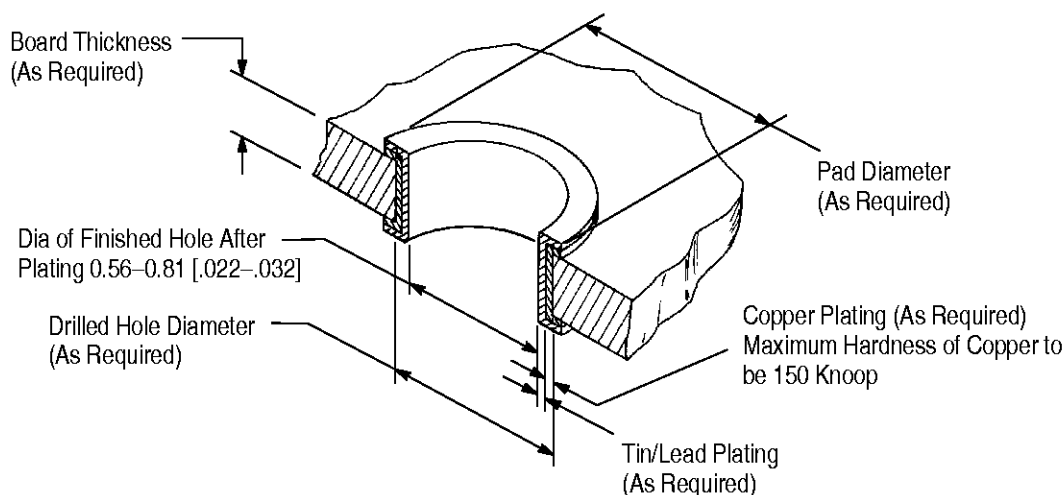

Figure 5
- Added new Figures 5, 7, 8, 9, 13
Information for the holes in the pc board for solder tine contacts are provided in Figure 5.